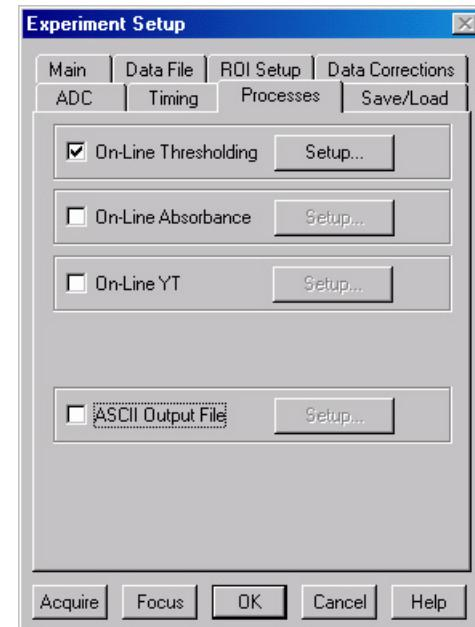

Figure 130. Processes tab page
6. Select the **Processes** tab page (Figure 130).